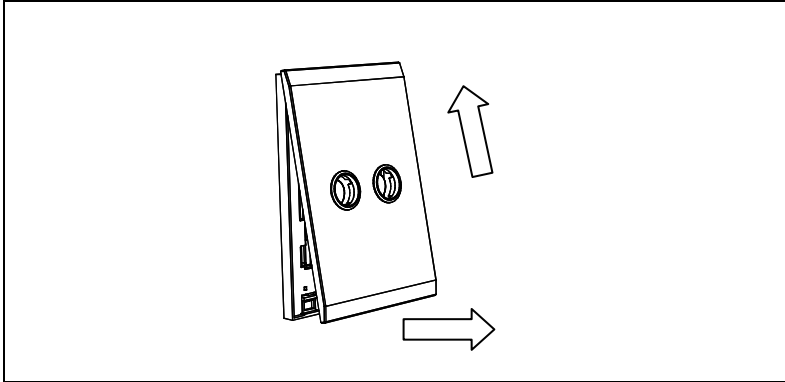

Figure 4 – Removing the cover on an 'A' Series Saturn unit
- 2) Swing the lower end of the cover about 5 mm away from the grid, until it is free (refer to Figure 4).